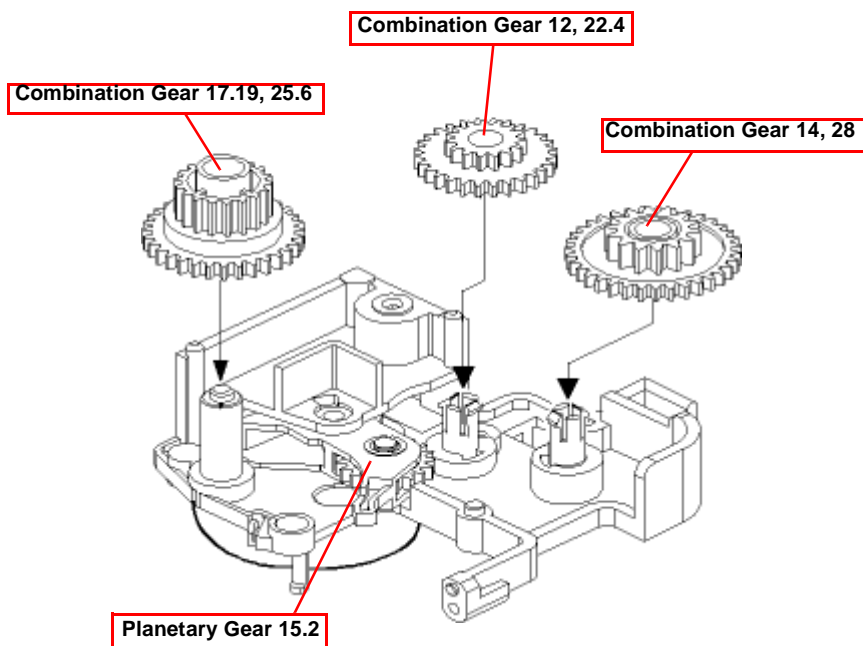

Figure 4-26. Gear Engagement in DE Assembly
- 14) Push down Planetary Gear 15.2 unit to the Pump drive engagement side to release the pinion gear of ASF/Pump motor in the DE Assembly. (See Figure 4-26.)
- Check that all gears are assembled in the DE unit. Refer to Figure 4-26.